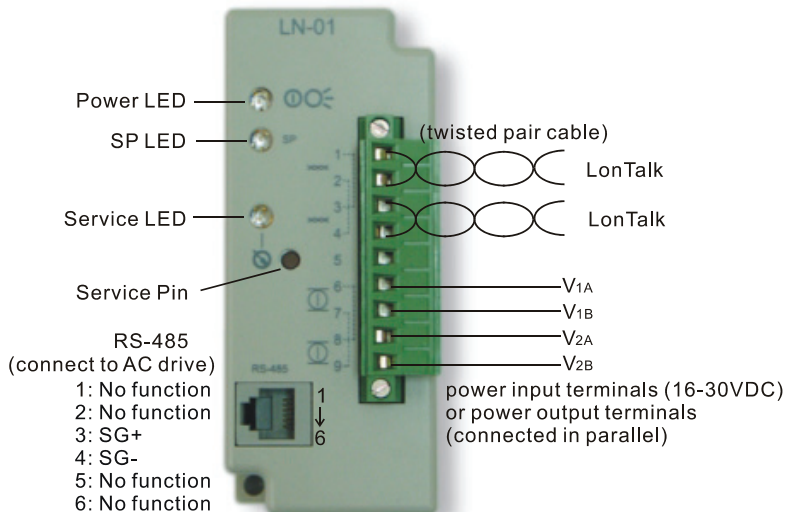

Figure 2-2
- LED indicator: Figure 2-2, sequence from top to bottom is Power LED, SP LED and service LED.
Bi-directional service pin is used to monitor the internal firmware status. As just mentioned above, LN-01 sends Neuron ID of Neuron chip to Lonworks via this pin. Before connecting to the LonWorks network via network tools, user needs to press the Service Pin (as shown in figure 2-2) to send the unique 48-bit neuron ID for LonWorks network identification. After successful configuration, LN-01 connects to the LonWorks network and the Service LED should be OFF. If Service LED is NOT OFF, it means that configuration is failed. Refer to chapter 5 Troubleshooting for details.